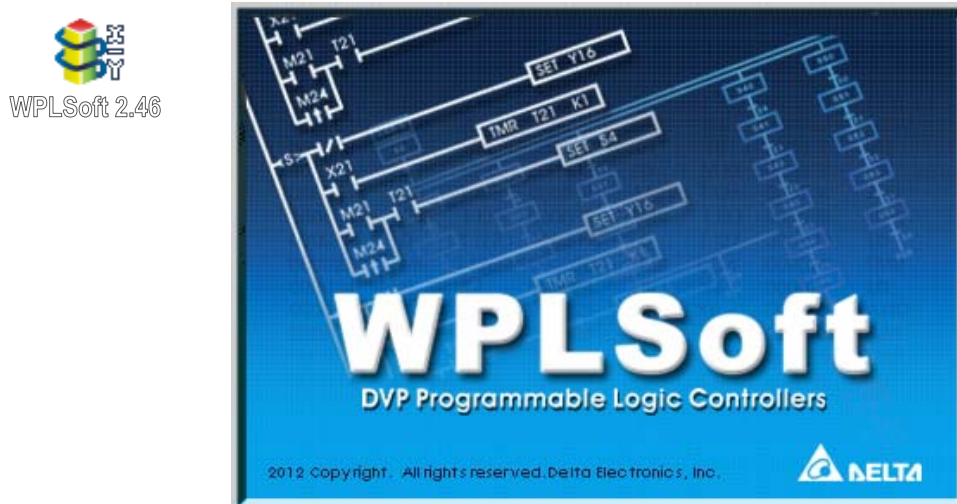

Figure 16-8 Left: WPLSoft icon; right: start screen
Step 1. You can run the editing software by double-clicking the WPLSoft icon (see Figure 16-8).